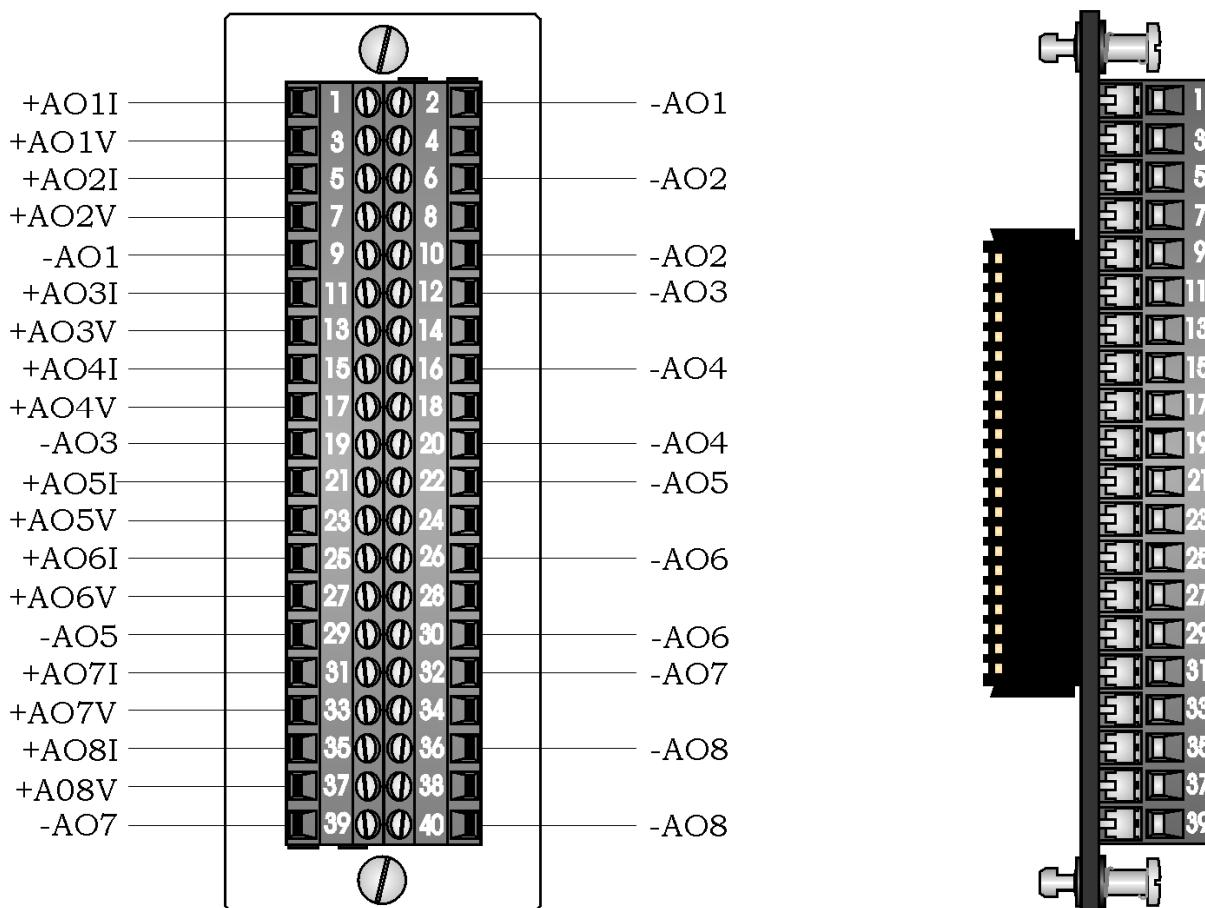
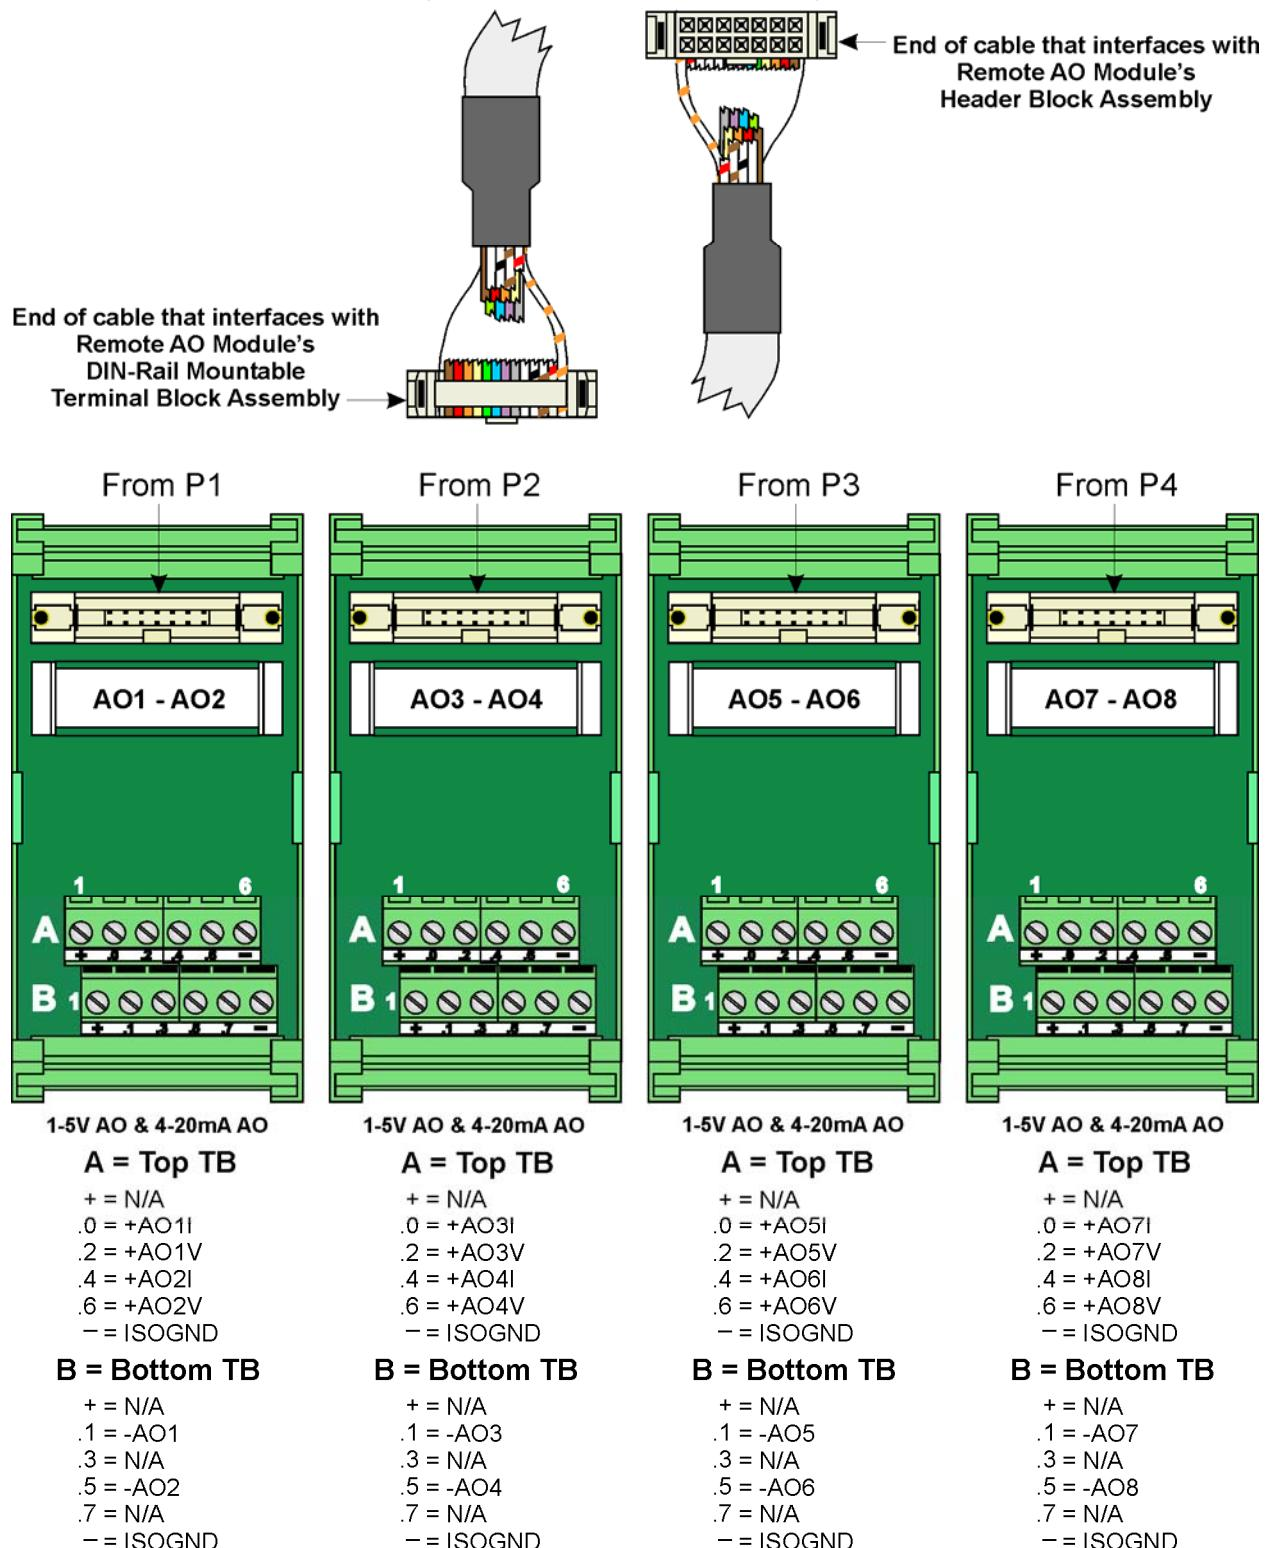

Figure 2-23 - Local AO Module Terminal Blocks Assembly Assignments
Figure 2-24 - Remote DIN-Rail Mountable Terminal Block Assembly Assignments for AO 4-20mA and 1-5V Operation
2.3.2.7 Analog Outputs (see Figures 2-23 through 2-26)
ControlWave Analog Output Modules are factory configured to support either eight (8) 1-5V or 4-20mA isolated outputs. Field wiring assignments associated with the locally terminated AORS Modules are provided in Figures 2-23 while wiring assignments associated with the remotely terminated AORS Modules are provided in Figure 2-24.